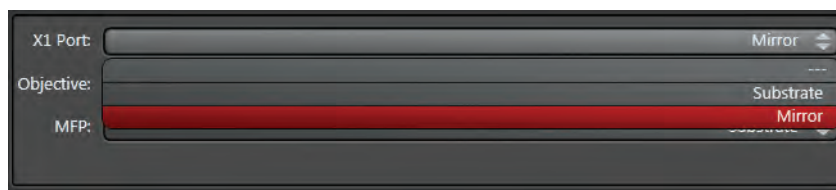

Figure 111: Selecting the Mirror setting for X1 Port
1. In **Beam Path Settings** in the working area, check whether the **Mirror** option is set to **X1 Port**. If not, open the pull-down menu for X1 Port and select **Mirror** (Figure 111).